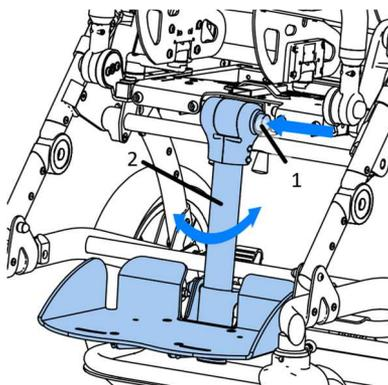

Fig. 22
To adjust the angle of the footrest Fig. 22 press the button (1) of the regulator and rotate the footrest profile (2) to the desired position. To lock the position of the footrest, release the button (1), the lock will occur automatically in the nearest locking position of the regulator.